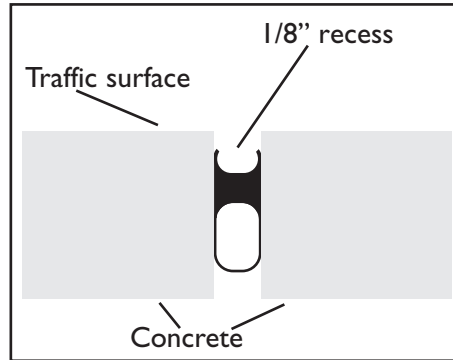

Figure 1
**Application:** Ideal surface temperature should be 60°F(16°C) - 85°F(29°C). Sealant should be applied to the prepared joint in a continuous operation. Tool the sealant slightly concave using dry-tooling techniques. **Sealant must be recessed below traffic surface.** (See Figure 1).